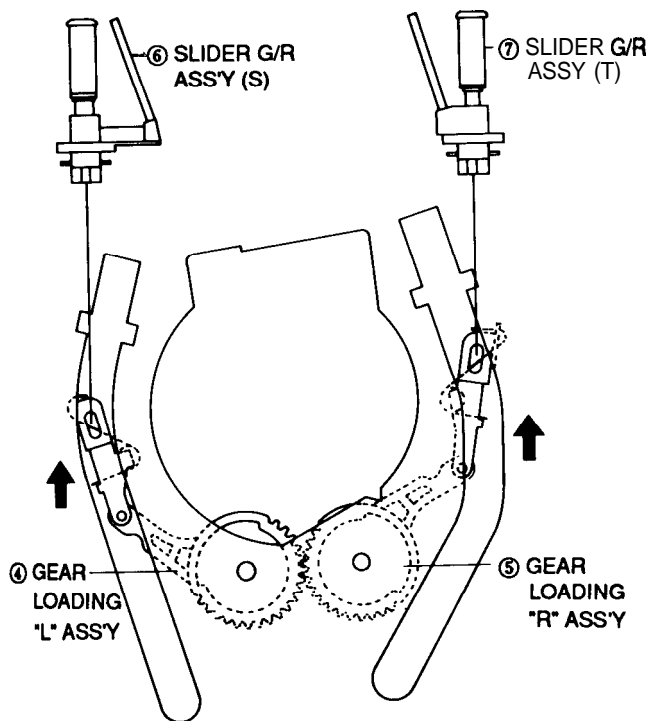

Fig. 67 Assembly of Slide Guide Roller "S", "T" Ass'y
- 4) Install the slide guide roller S, T ⑥, ⑦ into rail slot and then move it to the position of gear loading L, R ass'y ④, ⑤. (Refer to Fig. 67)
- 5) Turn the gear master ② toward arrow 'A'. (Eject mode)